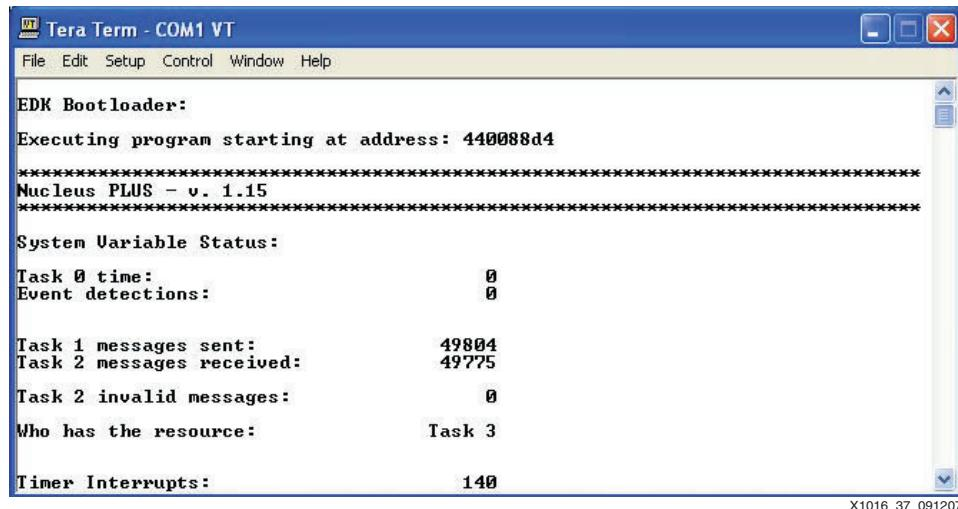

Figure 37: Bootloading the Nucleus SW Application from Flash to DDR Memory
1. In XPS, select **Device Configuration → Download Bitstream**, the Bootloader is launched once the FPGA is reconfigured as shown by Figure 37.